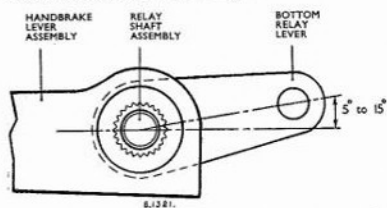

Fig. K.29. Showing the angular relationship of the handbrake lever to the bottom relay lever
1. Should a new relay shaft assembly or a new handbrake lever assembly be fitted, it is most important that the identification marks, made during dismantling on the original components, are accurately transferred on to the new assemblies to ensure that the angular relationship between the bottom lever and the handbrake lever is maintained. If however, new parts are to be fitted without the necessary identification marks, re-assemble the handbrake lever on the relay shaft serrations in the position shown in Fig. K.29.
lower face of the lever boss firmly abuts the distance washer. It is important to ensure that the identification marks made during dismantling are coincident when re-assembling or alternatively, refer to Fig. K.29 for the correct assembly position.